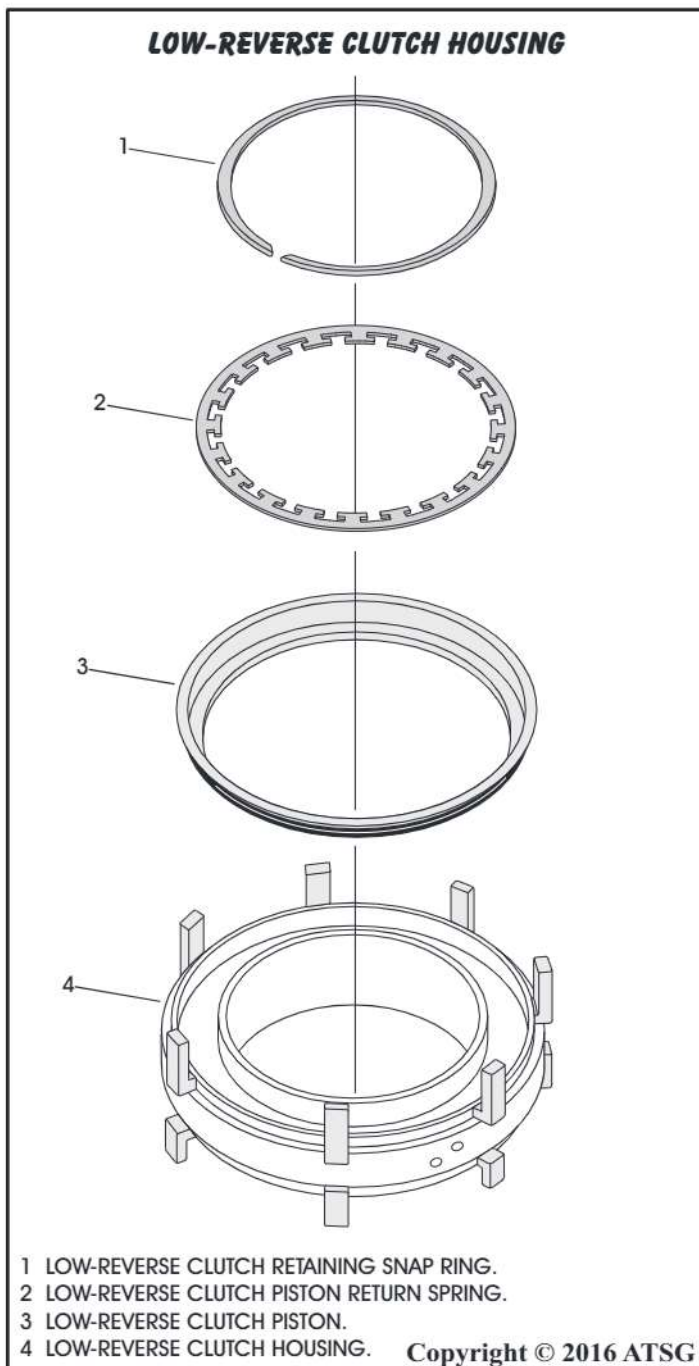

Figure 122
1. Remove the low-reverse clutch spring retaining snap ring shown in Figure 122.
2. Remove the low-reverse clutch piston return spring shown in Figure 122.
3. Remove and discard the low-reverse piston shown in Figure 122.